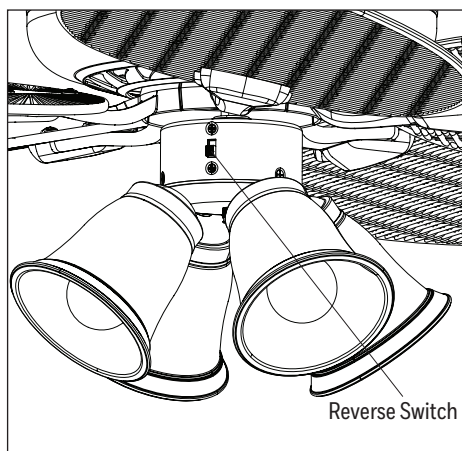

Figure 7.2
2. Use the reverse switch located on the switch housing to optimize your fan for seasonal performance. **In warmer weather**, push the reverse switch down which results in downward airflow creating a wind chill effect. **In cooler weather**, push the reverse switch up which results in upward airflow that will help move hot air of the ceiling (Figure 7.2).